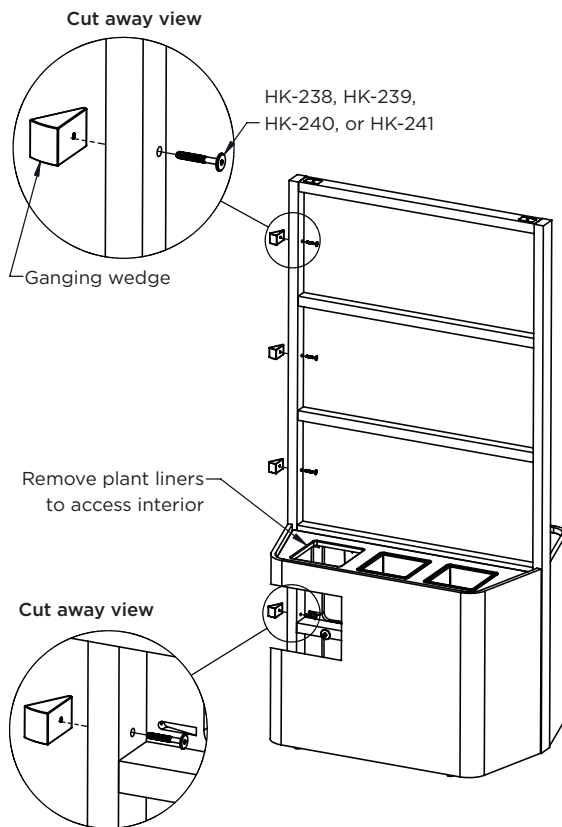

Figure 5B
- For 90"h to 90"h planters, locate ganging hardware connector bolts (HK-238, HK-239, HK-240, or HK-241, color dependent). The infill type will determine which hardware kit is used. Reference table below to identify the appropriate length. Remove the plant liners on the ganging ends to access the interior of the case. Using the  $\frac{5}{32}$  hex key, secure the ganging wedges to the planter frame using the connector bolts. For 90"h to 90"h planters, there are four connection joints per side. (Figure 5B)